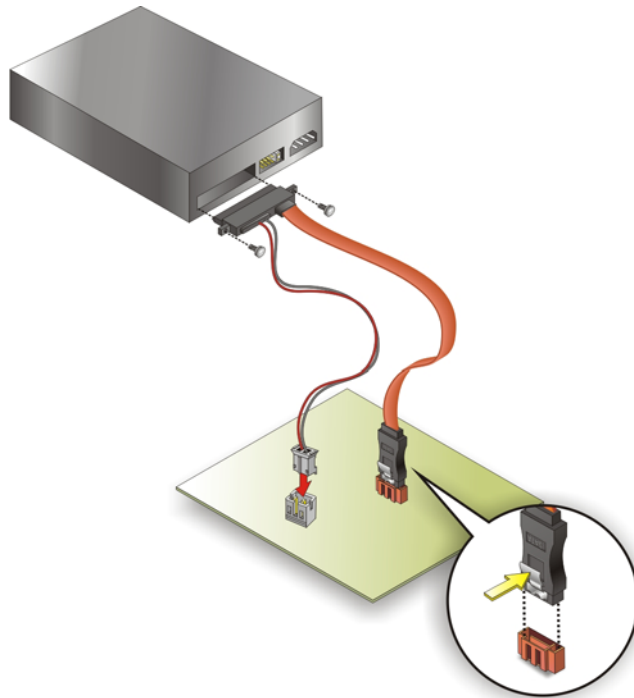

Figure 4-16: SATA Drive Connection
- Step 2:** **Insert the cable connector.** Press the clip on the connector at the end of the SATA cable and insert the cable connector into the on-board SATA drive connector. See Figure 4-16.
- Step 3:** **Connect the SATA power cable.** Connect the SATA power connector into the on-board SATA power connector. See Figure 4-16.
Step 4: Connect the cable to the SATA disk. Connect the connector on the other end of the cable to the connector at the back of the SATA drive. See Figure 4-16.